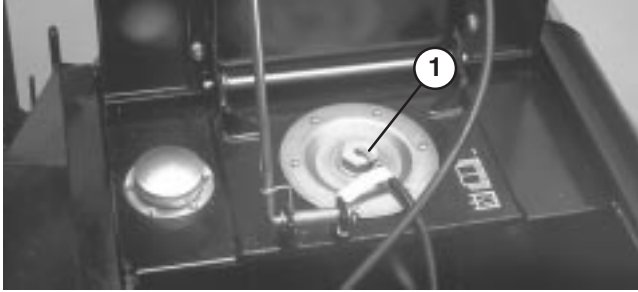

Figure 39
2. Clean around reservoir cover (Fig. 39). Remove cover and add hydraulic oil until it is even with arrows on sight glass (Fig.38).